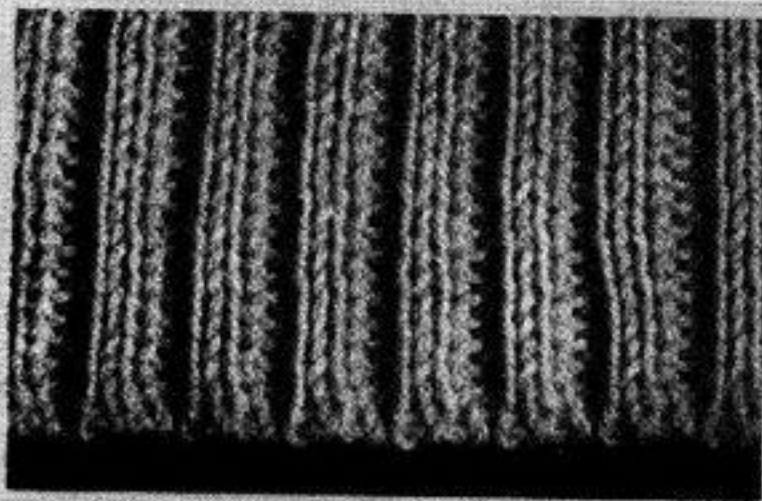

FIG. 20
**RIB II/I (FIG. 20) Close Rib.** For a direct casting-on the needles are placed in the following position: Flow combs alternate.